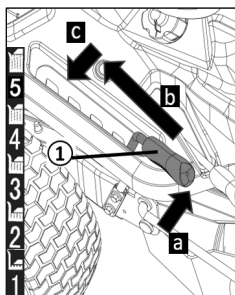

Figure 23
The ride on mower's mowing mechanism can be set to various heights using an adjusting lever (Figure 23 ①) on the
1. Move the adjusting lever in the required direction (Figure 23 a, b, c):